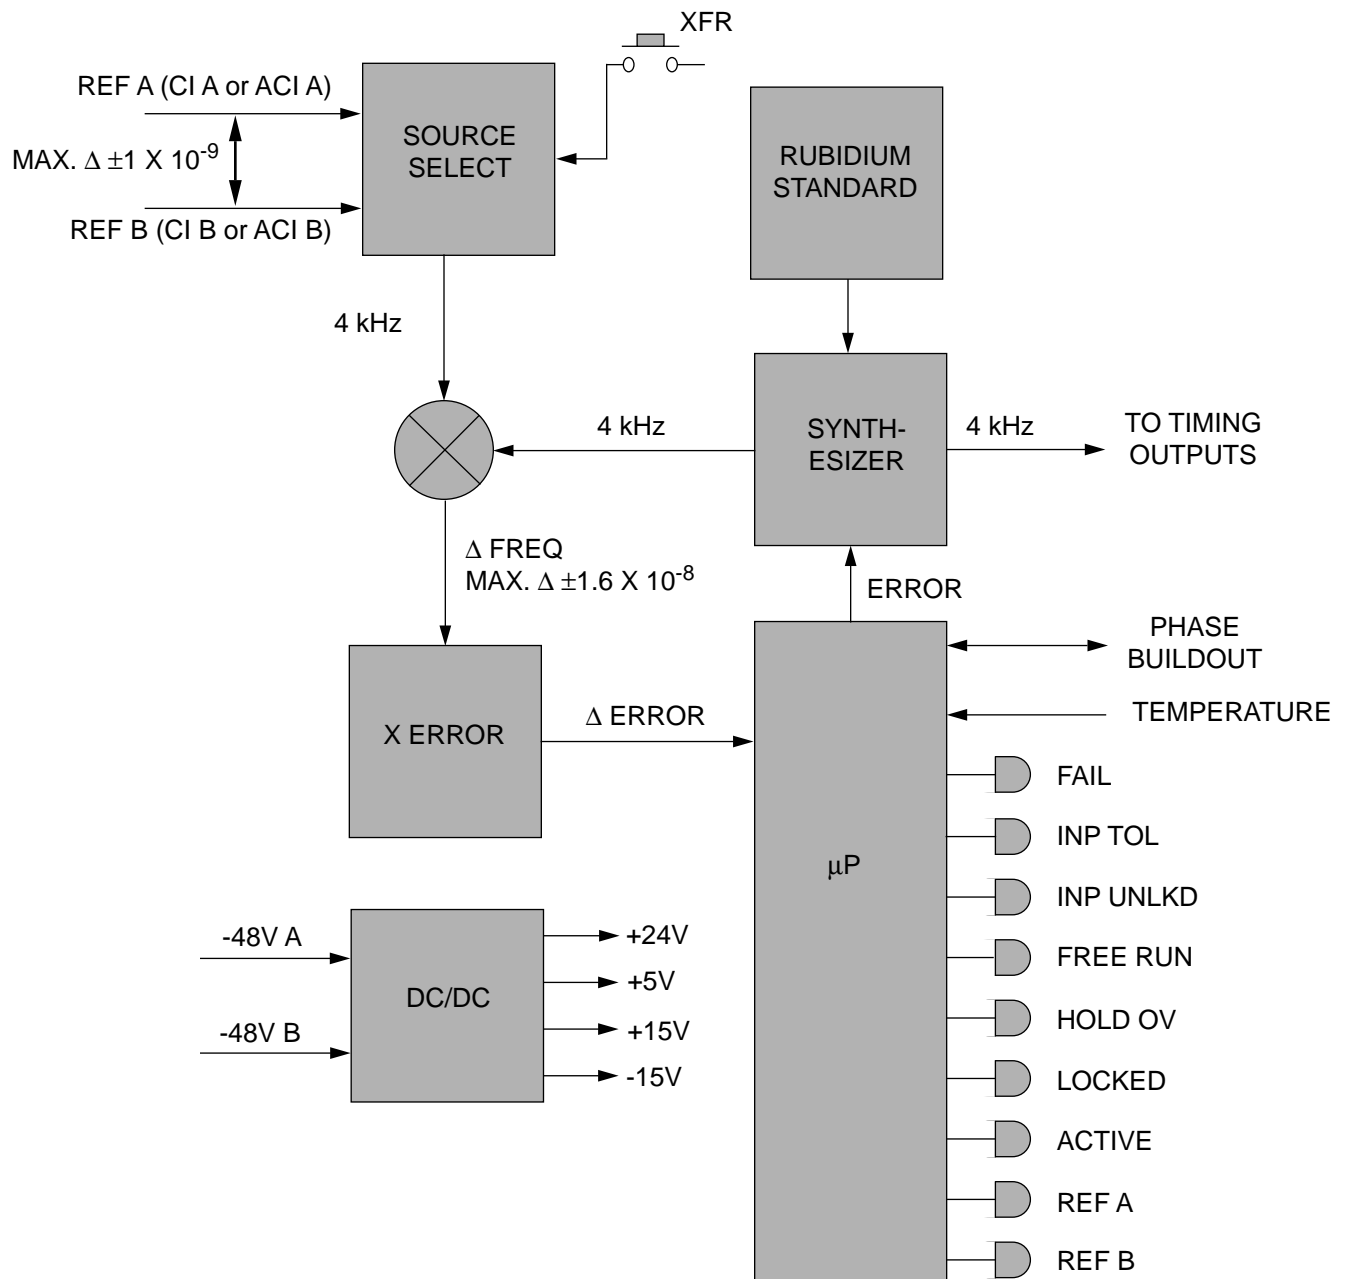

Figure 12. ST2 Card Block Diagram
4.47 As shown in Figure 12, two 4-kHz signals from the reference clock input (CI or ACI) cards enter the source sample circuit. The frequency of these signal samples are compared with the 4-kHz signal output of the synthesizer. The frequency difference is sent to the microprocessor.